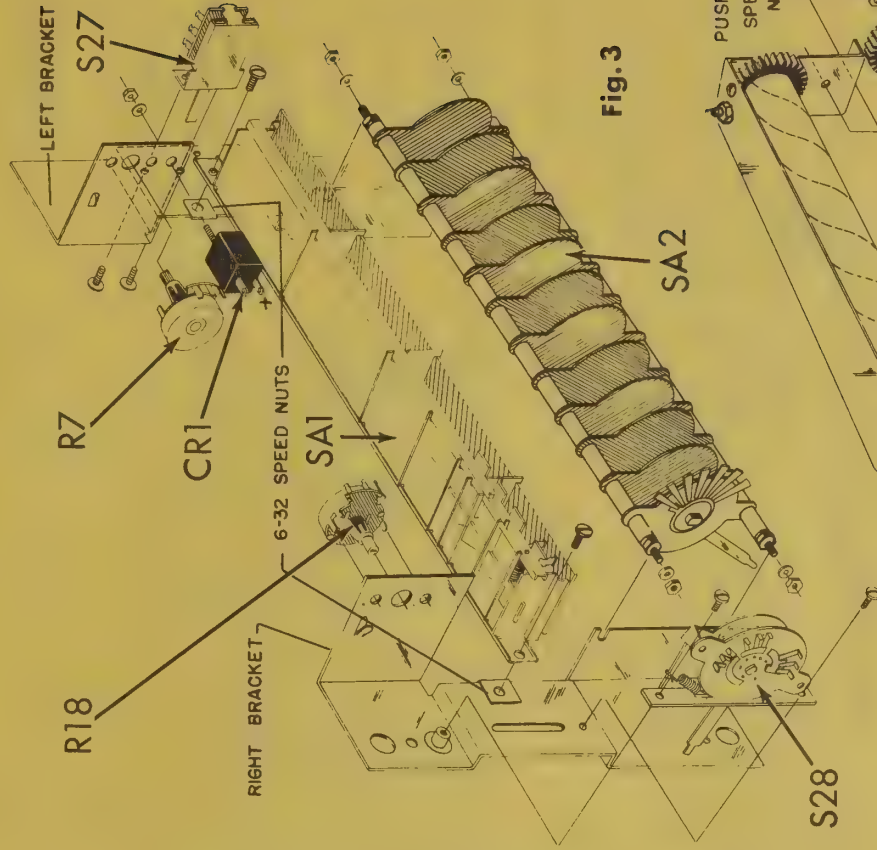

Fig. 3
1. Fig. 3. Attach one #6-32 speed-nut to the left and to the right bracket, as shown. Note that one side of the speed-nut is flat; attach it so that the other side lies in the "valley" of the brackets.
2. Fig. 3. Attach the "Line" push-button switch, S27, to the left bracket as shown. Use two #4-40 screws and two #4 lockwashers.
3. Fig. 3. Attach the "Merit" lever switch, S28, to the right bracket as shown. Use one #6-32 screw and one #6 lockwasher for the tapped post, and one #6 self-tapping screw for the hole in the bracket.
4. Fig. 3. Attach the calibrating pots, R7 and R18 as shown. These may either be of the snap-in (blue shaft) or tab mount (black or metallic shaft) type. The snap-in type, as the name implies, is merely snapped into place. The tab mount types are inserted the same way, then the two tabs are bent in snugly toward the shaft.
5. Fig. 3. Attach the selenium rectifier, CR1, to the left bracket as shown. Use one #6 lockwasher and one #6-32 hex nut. Note the polarity shown (the terminal marked + should be away from the calibrating pot.).
6. Fig. 3. Attach the lever switch assembly, SA2, to the brackets as shown. Use 4 #6 lockwashers and 4 #6-32 hex nuts. Make certain that the studs are firmly seated in the slots before tightening the hex nuts.
7. Fig. 3. Attach the push-button switch assembly, SA1, to the brackets as shown. Note that the terminals must face toward SA2. Use two #6-32 screws.